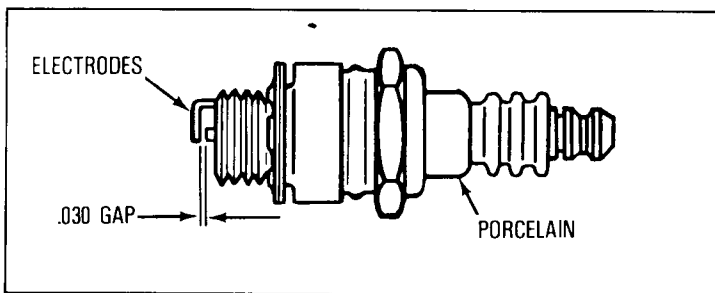

Figure 5
- ① **SPARK PLUG** (see Figure 5):